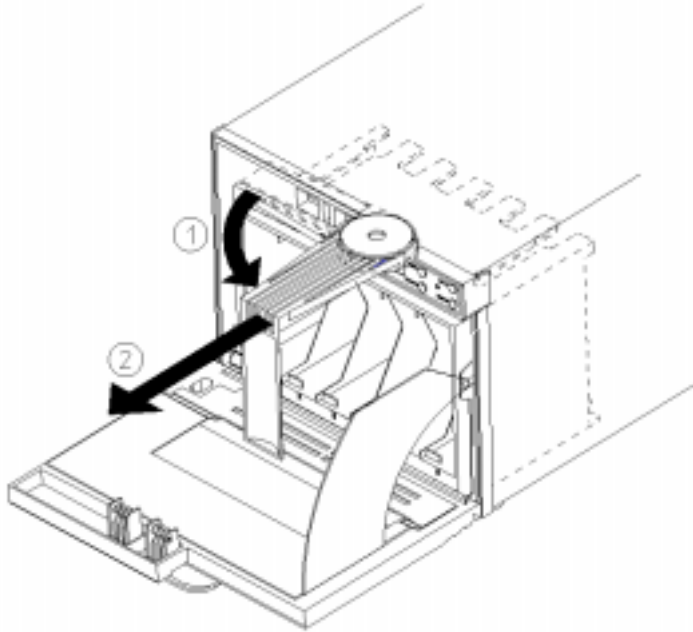

FIGURE 2-1 Removing the Magazine
2. Pull the magazine straight out (FIGURE 2-1).